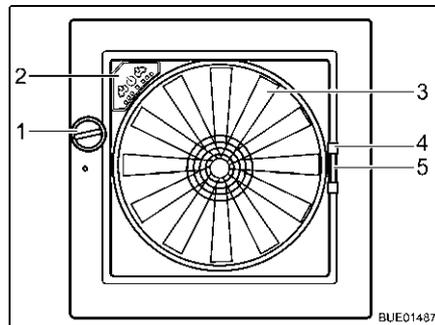

Fig. 133 Omni-Vent skylight
Opening: ■ Turn the knob (Fig. 133,1) until the desired opening angle is reached.
Closing: ■ Turn the knob (Fig. 133,1) until the skylight is fully closed.
Closing: ■ Using the handle (Fig. 133,4) pull the insect screen across to the other side of the frame.
- Press together the handle (Fig. 133,5) of the shade.
Fan If the skylight is open, the interior can be vented and aerated with the 6-speed fan (Fig. 133,3). The fan is operated via the operating panel (Fig. 133,2).